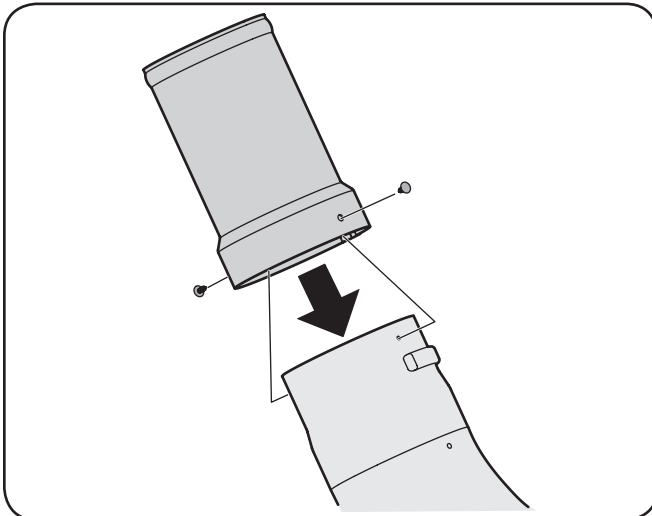

Figure 4-23
7. Install the chute adapter onto the chute elbow by lining up the tabs and sliding the adapter over the chute elbow, as in Fig. 4-23. Secure the chute adapter by installing two ratchet clips (726-3046), included in hardware pack 689-00163, into the holes provided.